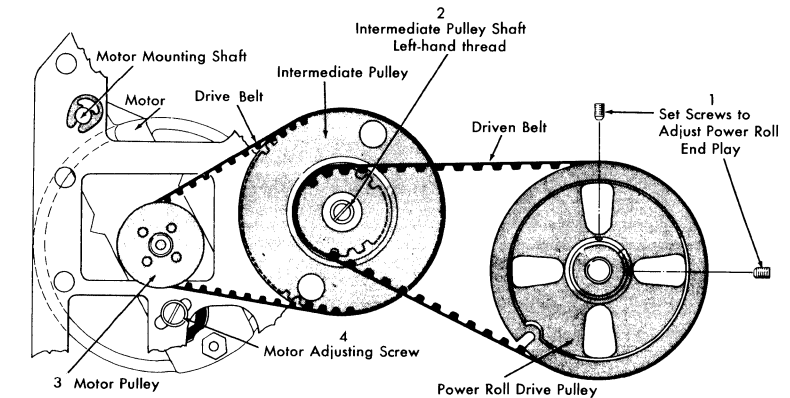

Figure 3. Motor and Drive Adjustment
1. The end play of the power roll should be .002" to .010". Make adjustment when locking the power roll drive pulley to the power roll shaft by its set screws (Figure 3).
deflection of the belt should be about 1/4" (Figure 3).
4. Adjust play in the drive belt by positioning the motor backward or forward on its elongated mounting hole. The deflection of the belt should be about 1/4" (Figure 3).